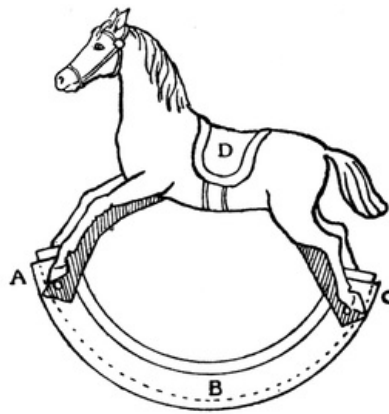
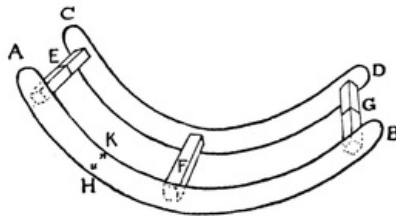

FIG. 408
FIG. 409
**Rocking Horses and Elephants.** The simplest way of making a rocking horse is shown in Fig. 408. Two rockers, A B C, are cut out of cardboard (medium thickness). Next two horses, D, are drawn on cartridge paper, the distance between the fore and hind feet corresponding to the distance A C in the rockers. The horses are coloured and cut out, and their heads and tails gummed together. The four legs are then fastened with paper-fasteners (or with gum) to the ends of the two rockers. A wooden rocking horse is made in the following way. The two rockers, A B and C D, are cut out of three-ply wood with a fret-saw. The arc of a circle of 4 inches to 4 1/2 inches radius is a good size; width of rocker, H K (Fig. 409), 3/4 inch.
The rockers in Fig. 409 can also be built up of cardboard.